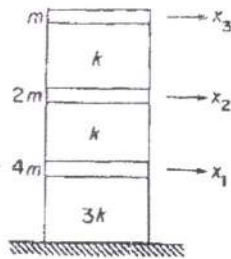

Fig. 4
6. For the system shown in Fig. 4, write the matrix equation based on the flexibility and determine the lowest natural frequency by iteration. 10